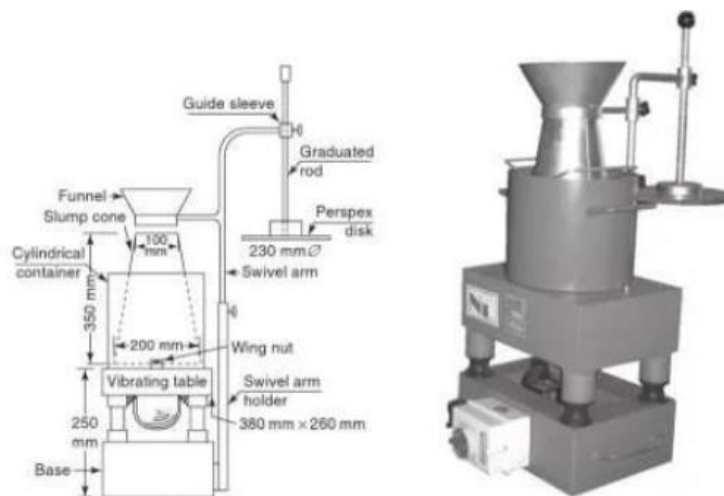

Fig.8.2 Vee-Bee apparatus
8.2 Determine the workability of freshly mixed concrete by using of Vee – Bee consistometer apparatus, measures the relative effort required to change a mass of concrete from one definite shape to another (i.e., from conical to cylindrical) by means of vibration. as shown in Fig.8.2